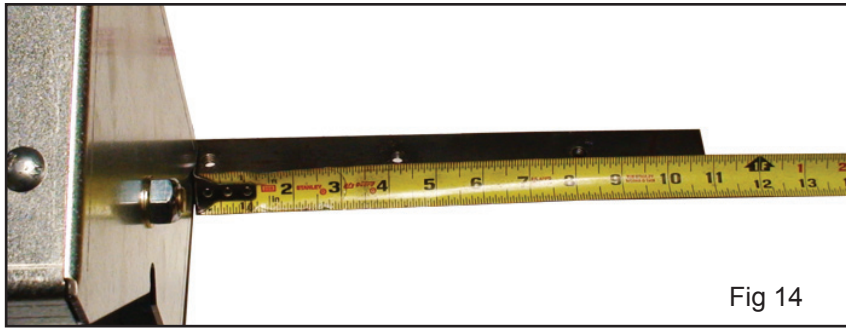

Fig 14
Step 6. Remove excess mounting bar material. Mark mounting bar even with the outside edge of the end plate. Remove the mounting bar from the housing and cut off the excess material at the mark. (Fig 14) Reinstall the mounting bars on the center section only so that the ends can slide in and out.